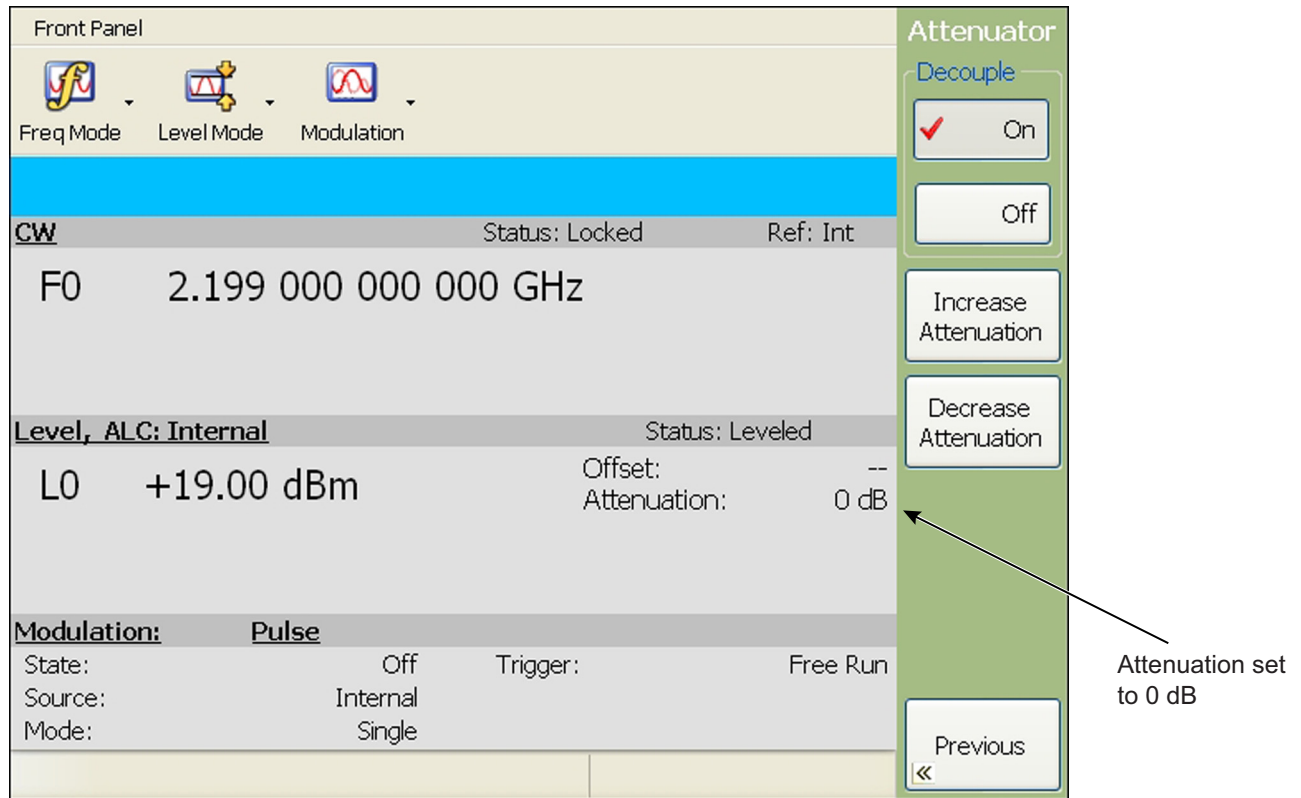

Figure 3-9. Ensuring 0dB attenuation setting
- d. Ensure the Attenuation is set to 0 dB, as shown in Figure 3-9. If not, press **Decrease Attenuation** until it reads 0 dB.